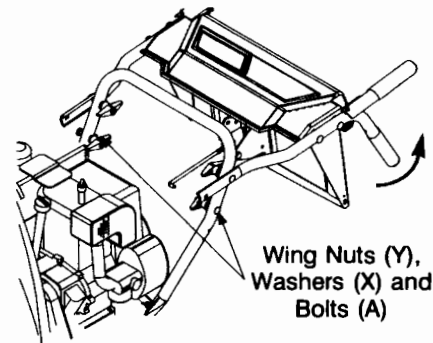

FIGURE 5
- Resting the upper handle control panel assembly on the floor, line up the upper holes in both the upper and lower handle and secure with curved carriage bolts (A), saddle washers (X) and wing nuts (Y). See Figure 5.